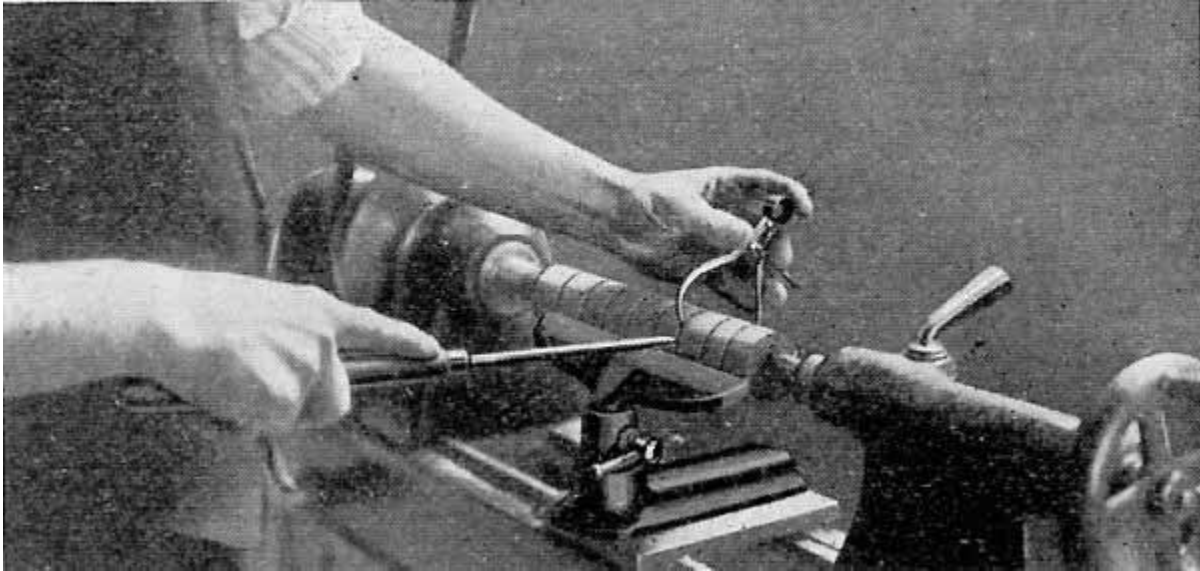

Fig. 5.
2. THE SIZING CUT (SMALL GOUGE). FIG. 5.